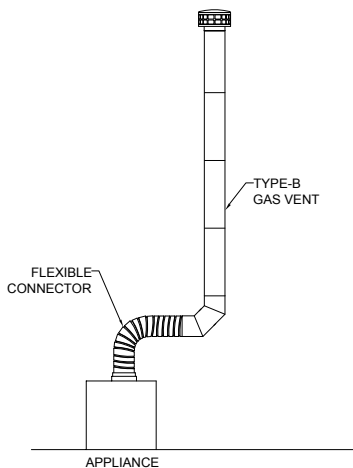

FIG. 4
- A single appliance (See FIG. 4) or